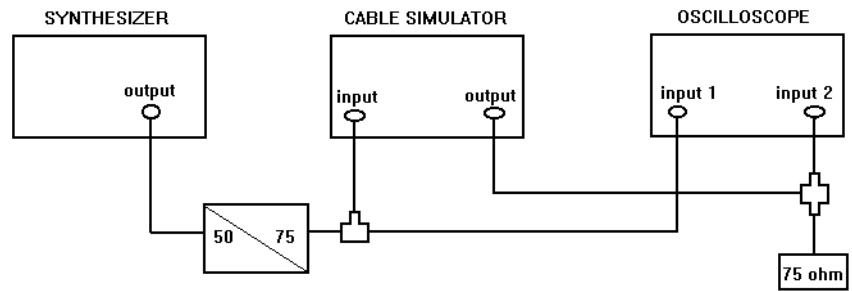

Figure 3-57 **Monitor Input Test Setup**
4. Connect the equipment as shown in Figure 3-57 below, but use the Balanced DS1 output and input ports on the HP 37717C connected via two 110/75 ohm bal to Unbal converters.
8. Connect a fixed 6dB Attenuator in the Additional Attenuation position of the circuit of Figure 3-57.
13. Connect a fixed 6dB Attenuator and a fixed 3dB Attenuator in the Additional Attenuation position of the circuit of Figure 3-57.